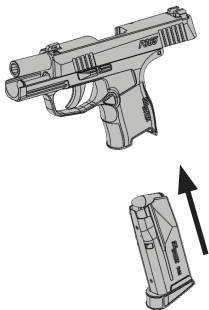

Figure 4
5. Insert a loaded magazine pushing it up into grip module until it locks in place. You should hear an audible click (figure 4).